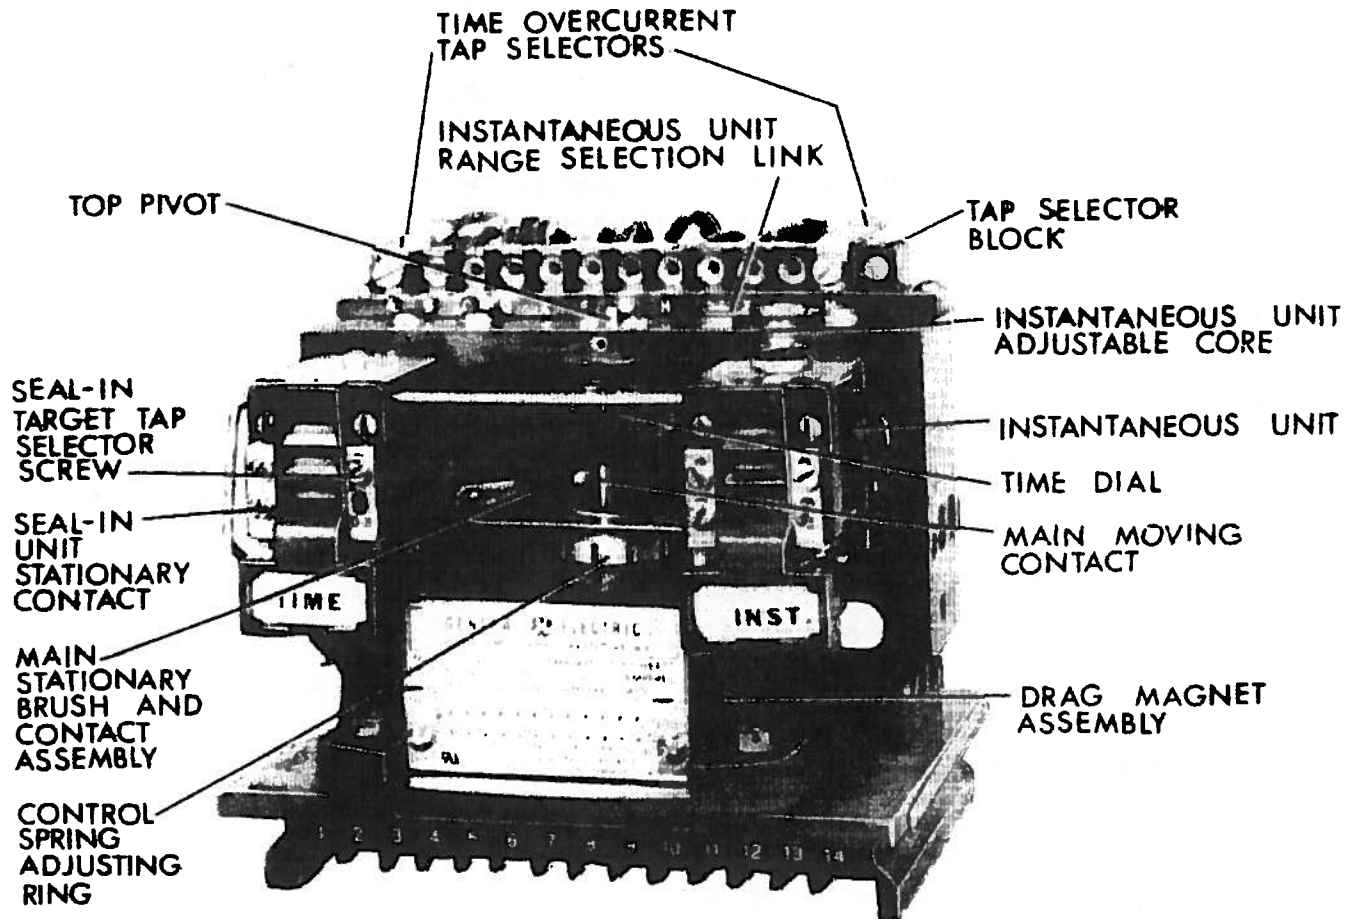

Figure 1 (8043006) Type IFC95BD Relay, Removed From Case, Front View
1. Select the desired range by setting the link in the proper position. (See Figure 1 and the internal-connections diagram.) Whenever possible, select the higher range since it has a higher continuous rating.
Although a time between the listed Minimum and Maximum will be acceptable, it would be preferable to adjust the operating time as near as possible to 0.525 seconds for 60-hertz relays and 0.595 seconds for 50-hertz relays. The drag magnet assembly should be approximately in the middle of its travel. The drag magnet assembly is adjusted by loosening the two screws securing it to the support structure. See Figure 1. Moving the drag magnet towards the disk and shaft decreases the operating time, and moving the drag magnet away from the disk and shaft increases the operating time. The screws securing the drag magnet assembly to the support structure must be tight before proceeding with other time checks.